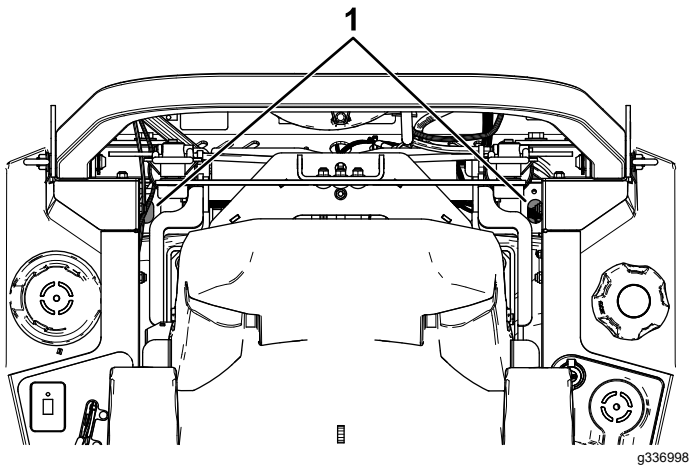

Figure 85
- **For ZT 4400 Hydros**, use an extension and 7/16-inch socket, access the vent plug from the top of the machine through the holes near the roll-bar mounts (Figure 85).